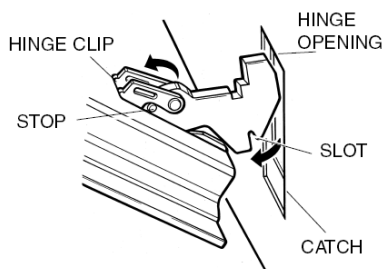

Figure 10 - removing the oven door
2. Raise one hinge clip and rotate it towards you as far as the stop (Figure 10). Repeat the procedure with the second hinge clip on the other side of the door.